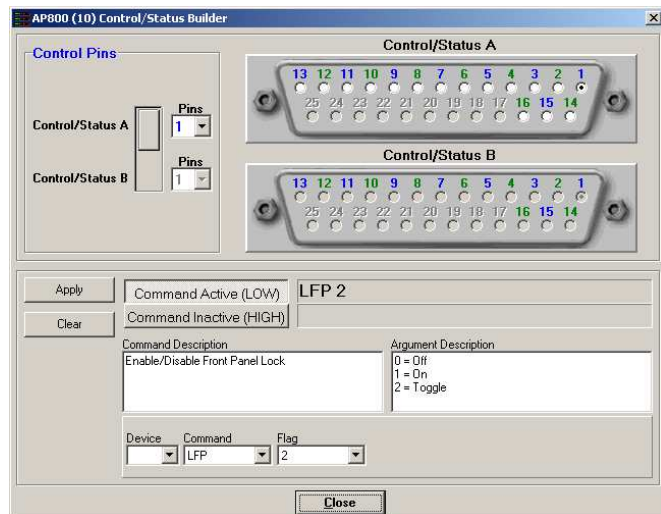

Figure 2. Control/Status Builder
2. If you are programming an AP800, select the port you want to program—either A or B (see Figure 2).